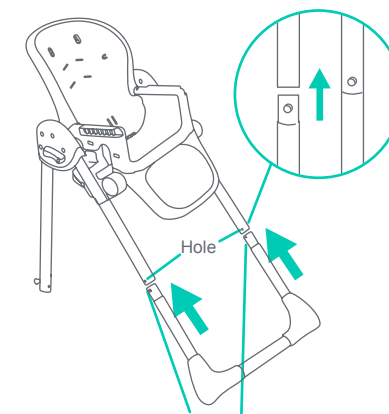

Fig. 7
- 7) • Insert the Legs into the ends of the front tube of both the right and left Upper Frame Assemblies (Fig. 7).